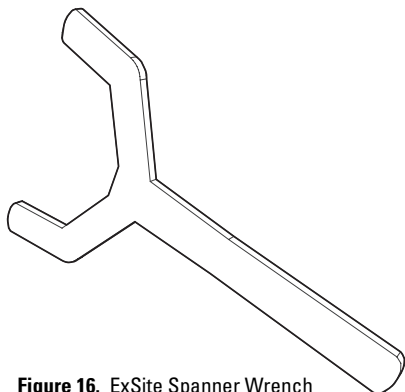
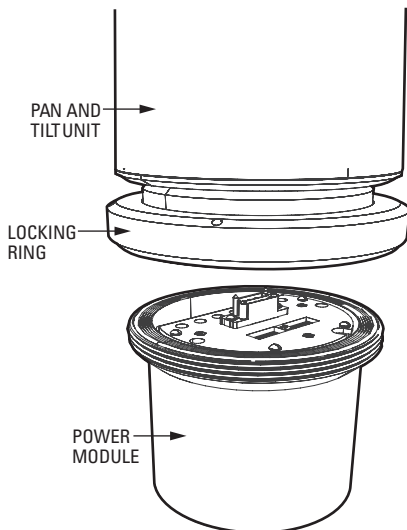

Figure 16. ExSite Spanner Wrench
Figure 17. Removing the ExSite Pan and Tilt Unit
2. Remove the pan and tilt unit from the power module (refer to Figure 16 and Figure 17):
8. Attach the pan and tilt unit to the power module (refer to Figure 16 and Figure 17 on page 17):